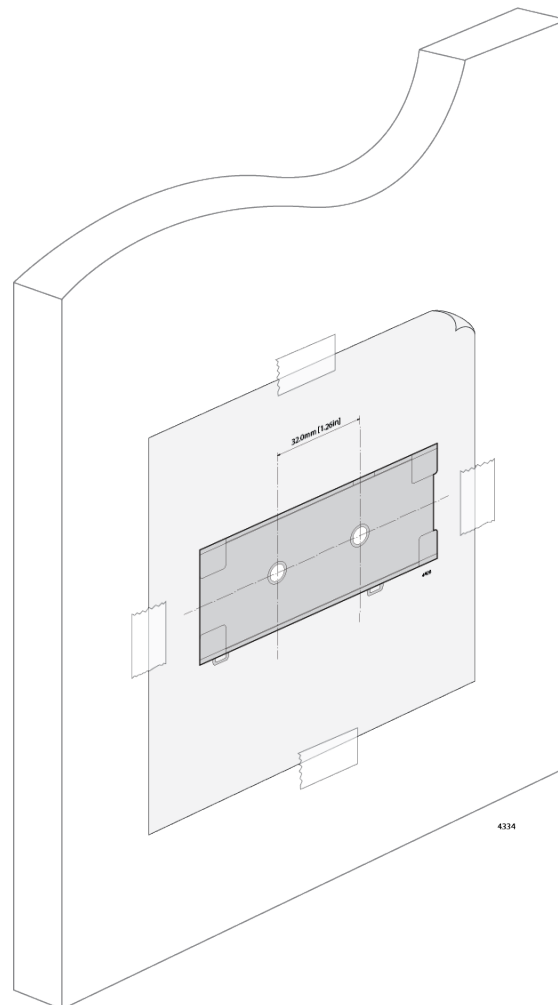

Figure 29. Placing the Template on the Wall
3. Use scotch tape to attach the template on the wall as shown in Figure 29.
3. Use scotch tape to attach the template on the wall as shown in Figure 29 on page 44.